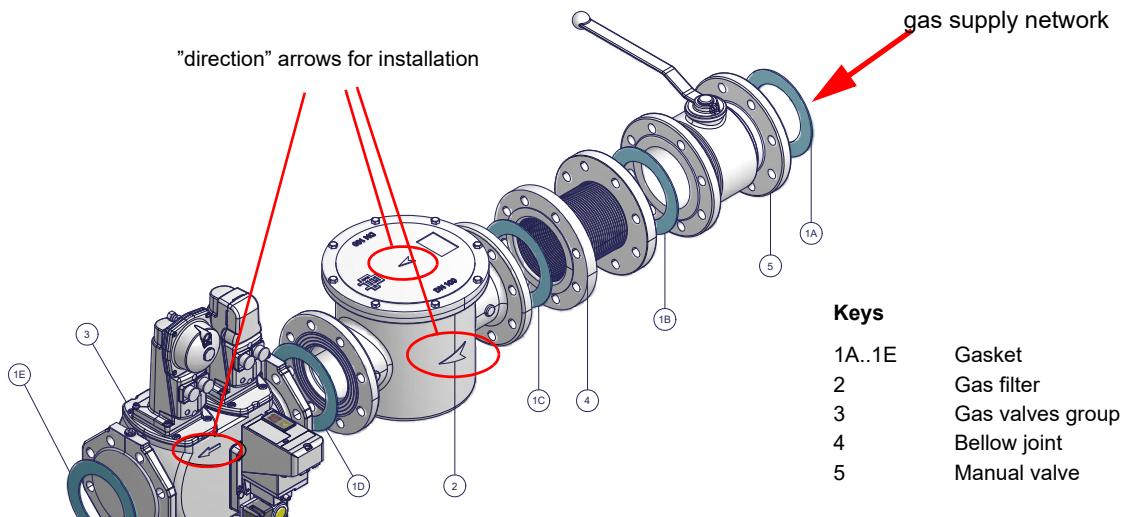

Fig. 4 - Example of gas train
**ATTENTION:** once the gas train is mounted according to the diagram on Fig. 4, the gas proving test must be performed, according to the procedure set by the laws in force.